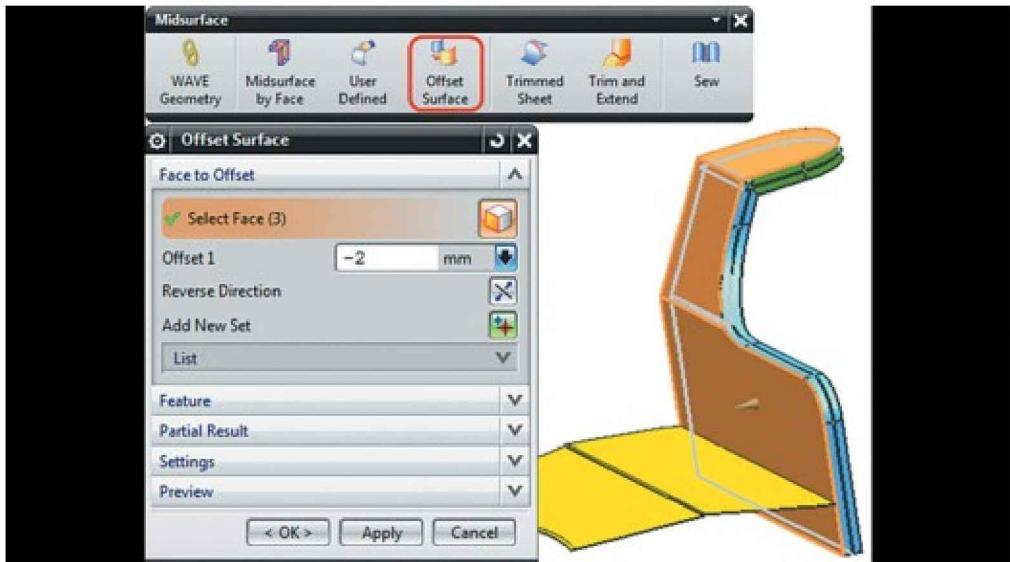

Figure 2.26. Creating midsurfaces using the Offset Surface command
3. Click **Offset Surface** on the **Midsurface** toolbar. In the **Offset Surface** dialog box (Figure 2.26), do the following:
- Select faces of bodies 3 and 4, as shown in Figure 2.26.